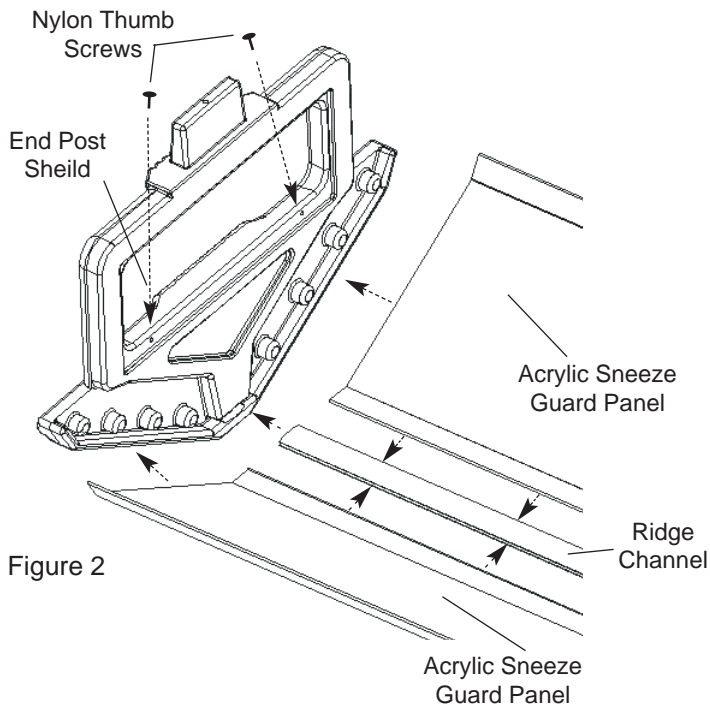

Figure 2
- Step 6: Remove Sneeze Guard Post End Shield by unscrewing nylon thumb screws. Remove paper from both sides. Reattach to Sneeze Guard Post. Repeat procedure for other End Shield (see Figure 2).
- Step 7: Insert both Acrylic Sneeze Guard Panels into Sneeze Guard Ridge Channel so that both Panels slant upward. Position Panels in the center of Ridge Channel (see Figure 2).
- Step 8: Insert one end of Ridge Channel and Panels into one Sneeze Guard Post, aligning the panels to fit in the groove between the top of the Post and the round protrusions (see Figure 2) (Note: The "Carlisle" logo faces the outside).